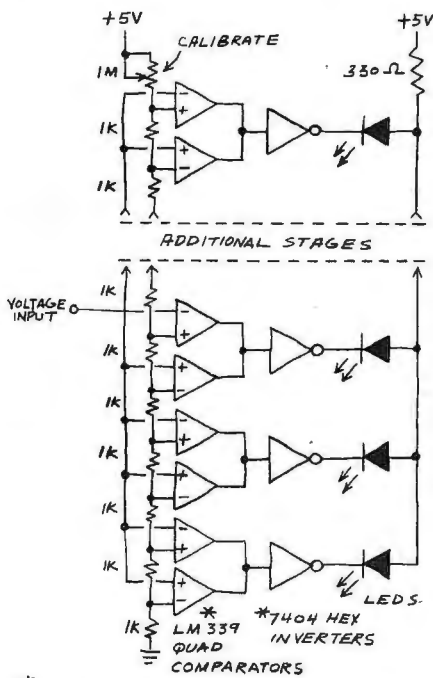

Fig. 7. A moving-dot voltage indicator.
Fig. 7 shows one possible configuration suggested by Bill Cikas of Rockford, IL.
**Solid-State Oscilloscope Update.** The solid-state oscilloscope described in previous columns has resulted in more letters than any previous topic covered in "Experimenter's Corner." In fact, the moving-dot voltage indicator in Fig. 7 is actually the vertical section of a solid-state scope designed and built by Bill Cikas.